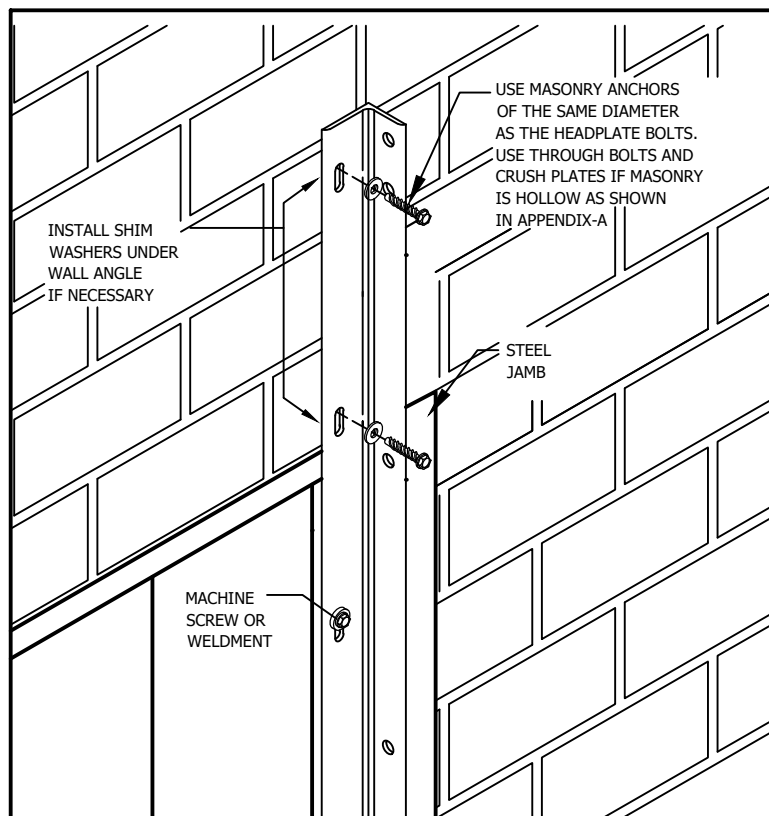

FIGURE 7
- ✓ Washers must be installed under the head of each jamb fastener as shown in Figure 7.